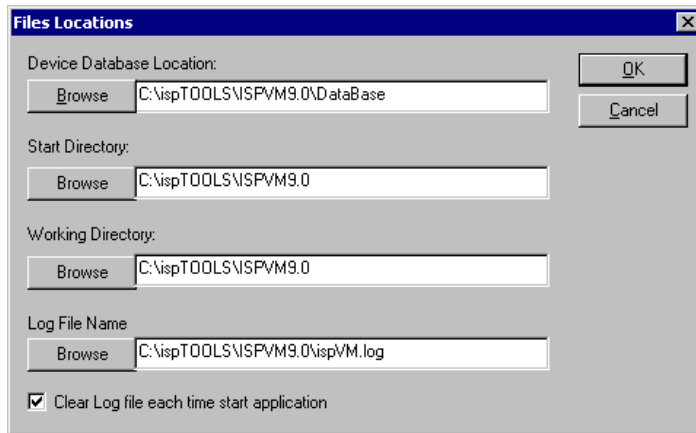

Figure 2-18. Files Location Dialog
1. Choose **Options** ⇒ **File Locations** to open the Files Location dialog (Figure 2-18).